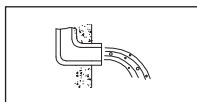

Figure 3
- 5.Before installing the faucet, be sure to remove impurities and sludge in the embedded pipes to avoid clogging and affecting the water outlet function. (Figure 3)